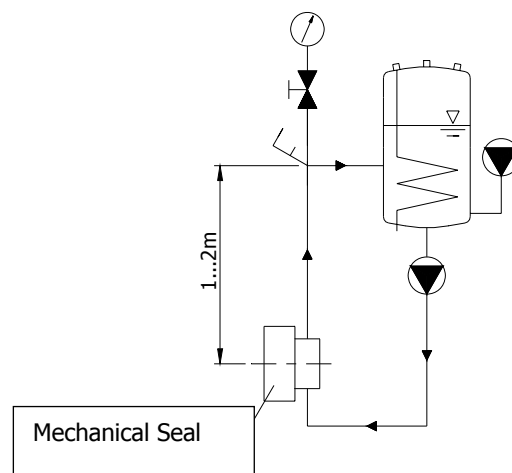

Figure 4.6.1: Pressurisation tank installation diagram
**ALWAYS** install a pressurisation tank 1 to 2 meters above the pump shaft. See Figure 4.6.1.
**ALWAYS** connect the cooling fluid inlet to the lower connection of the seal chamber. Therefore, the outflow of the cooling liquid will be through the upper connection of the chamber. See Figure 4.6.1.